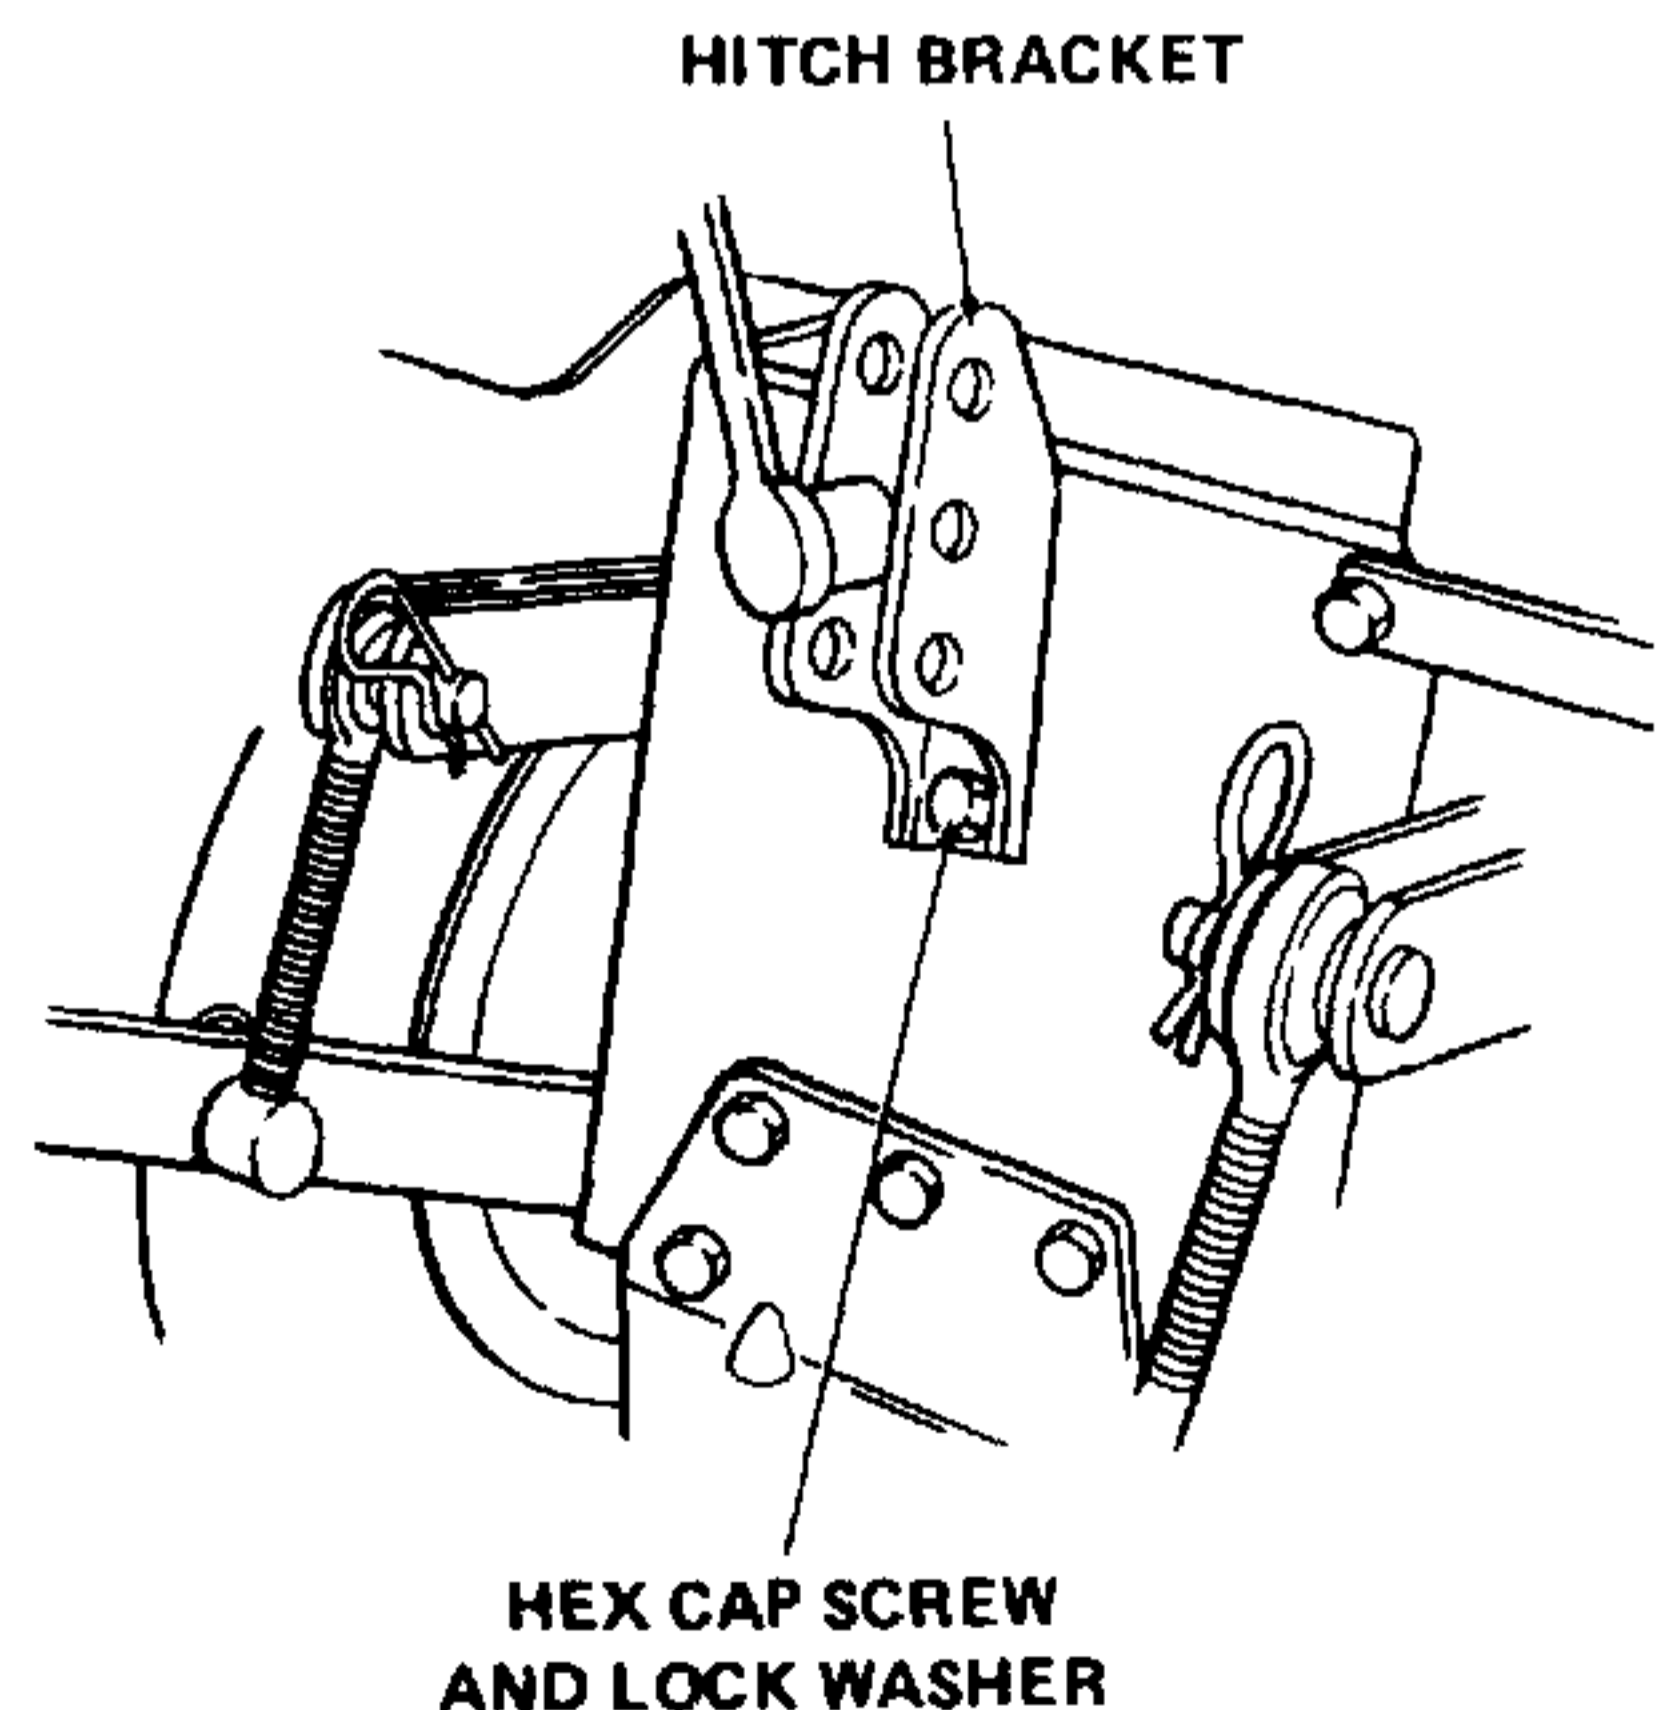

Figure 7-60. Installing Hitch Bracket on 3-Point Hitch Plate Assembly.
10. Install hitch bracket (7, Figure 7-41) on 3-point hitch plate assembly with two 3/8-inch lock washers (2, Figure 7-40) and 3/8-16 x .88-inch long hex cap screws (13). Refer to Figure 7-60.